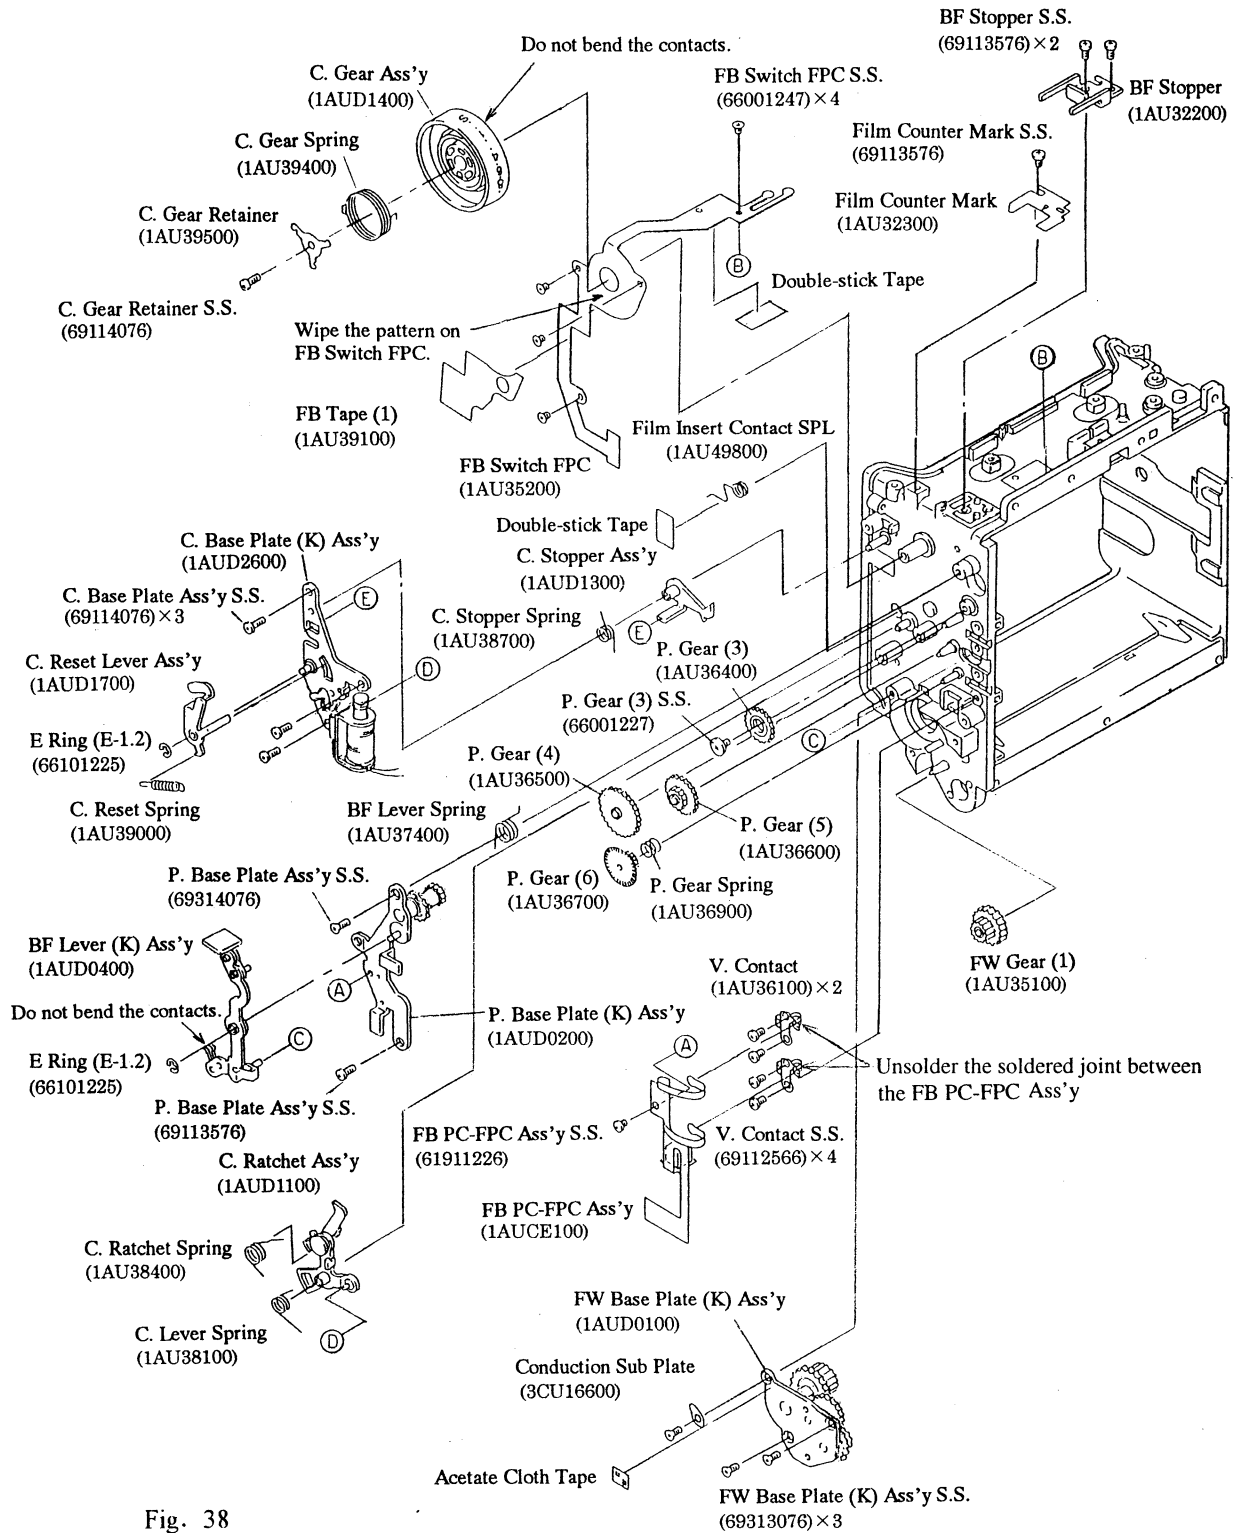

Fig. 38
(See Fig. 38)
- f) Before installing the C. Gear Ass'y (1AUD1400), wipe its contacts and the pattern on the FB Switch FPC. (See Fig. 38)
- g) Install the parts with attention paid to their locations. (See Fig. 38)